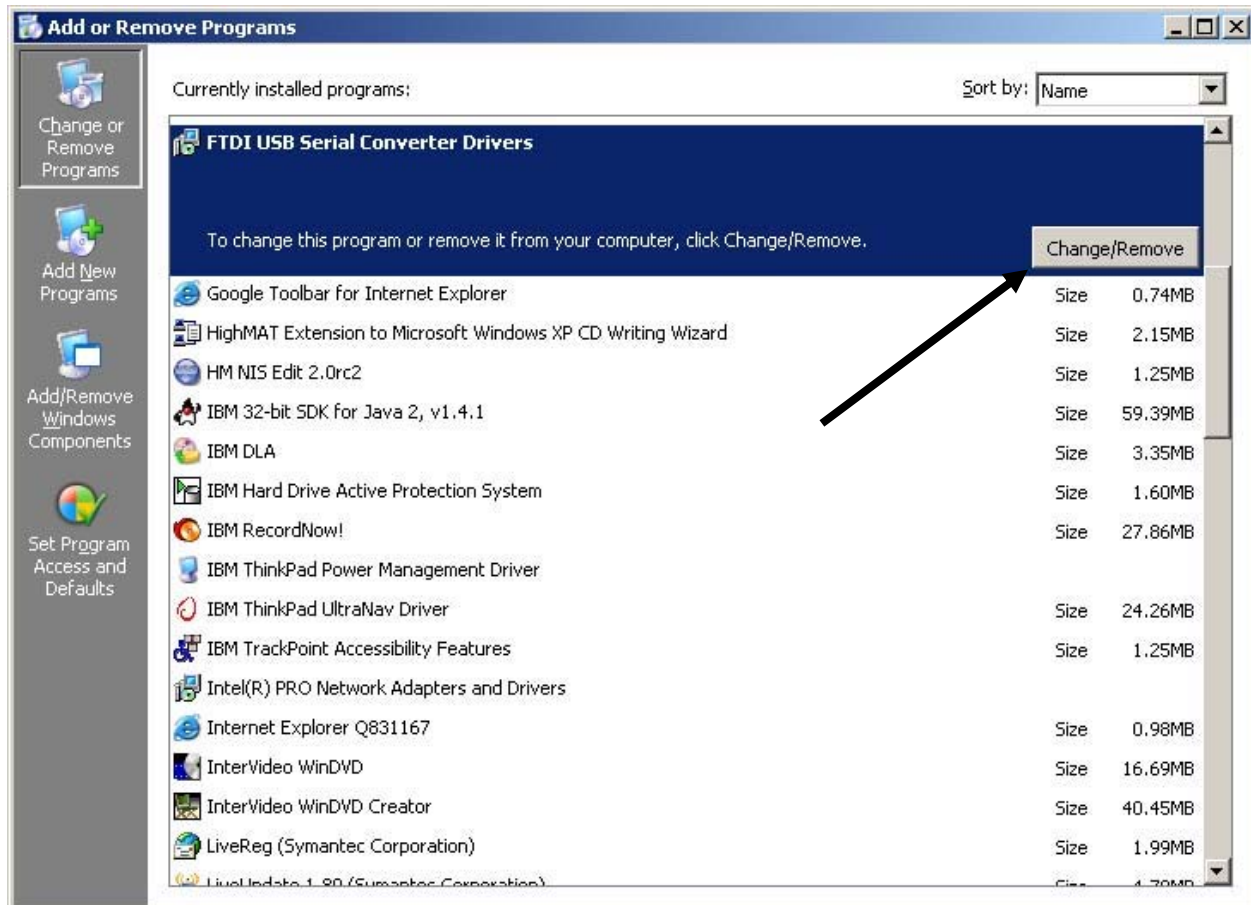

Figure 43
5. Click **Change/Remove** in the **FTDI USB Serial Converter Drivers** section (Figure 43).